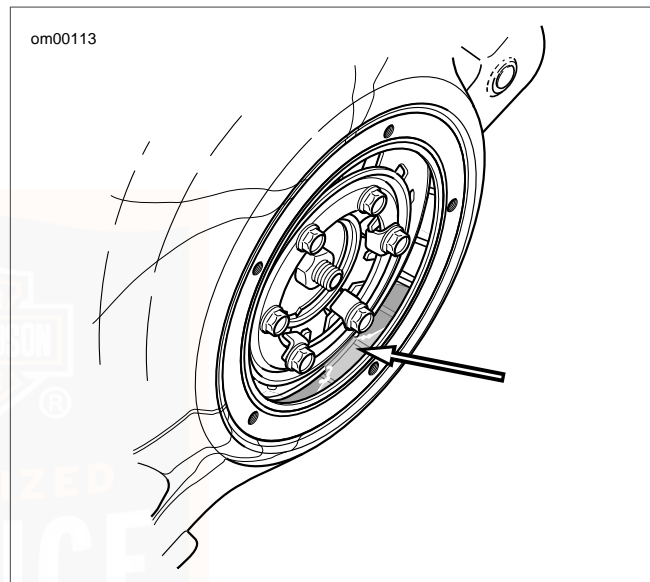

Figure 57. Lubricant Level with Motorcycle Upright
4. See Figure 57. With vehicle standing upright, not leaning on the jiffy stand, the lubricant level must be visible in the bottom of the chaincase and must not be any higher than the bottom of the diaphragm spring.